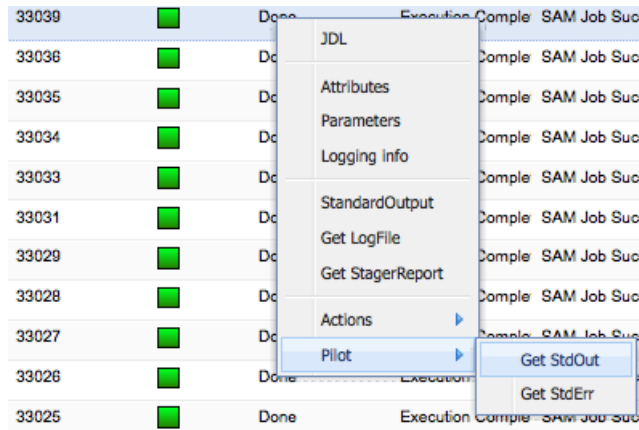

Figure 4: View the pilot output of a job via the Job Monitoring Webpage.
- Select “Pilot” then “Get StdOut” or “Get StdErr” (Fig. 4).